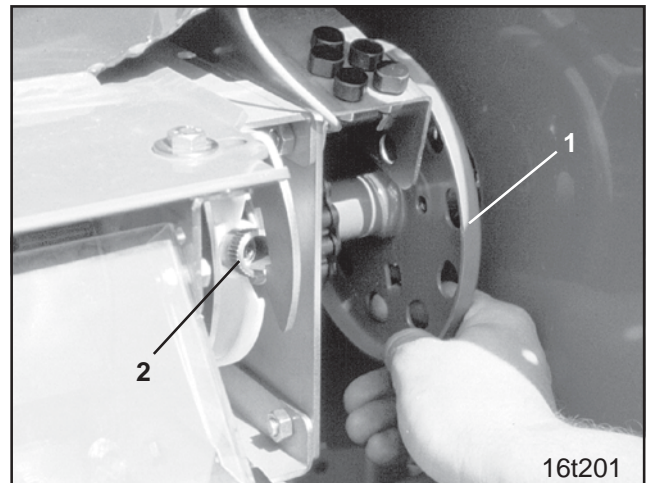

Fig. 9.7
- Turn the hand wheel (Fig. 9.7/1) until the thumb nuts (Fig. 9.7/2) can be seen
- Turn hand wheel (Fig. 9.7/1) until the thumb bolts (Fig. 9.7/2) can be seen